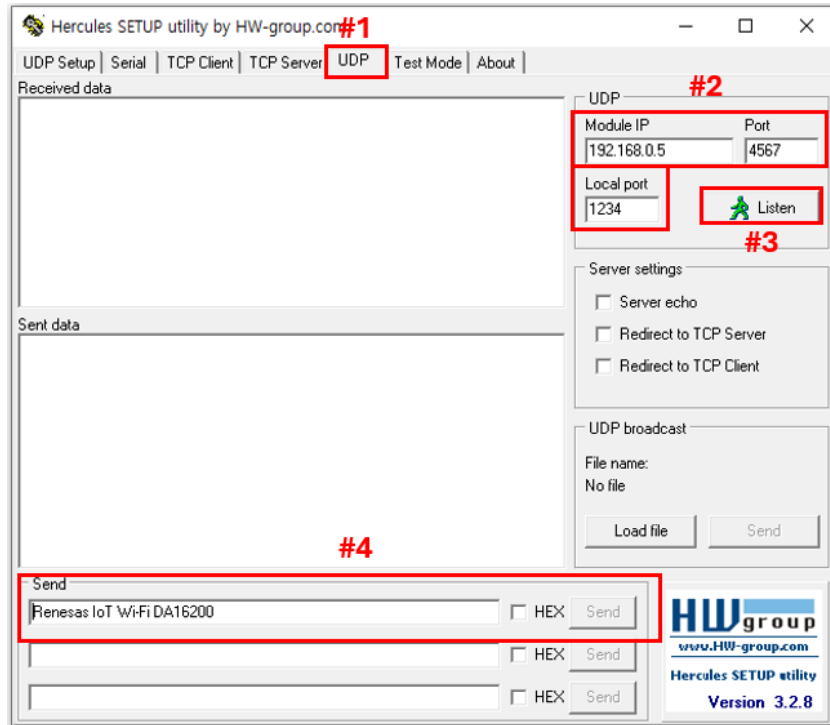

Figure 31. Hercules – UDP socket setting
- a. Select UDP (#1, see Figure 31).
- b. Enter the IP address and port of the counterpart's UDP socket (#2, see Figure 31).
- c. Enter the port number to be used and click Listen to open the socket (#3, see Figure 31).
- d. Enter data and click Send to transmit (#4, see Figure 31).